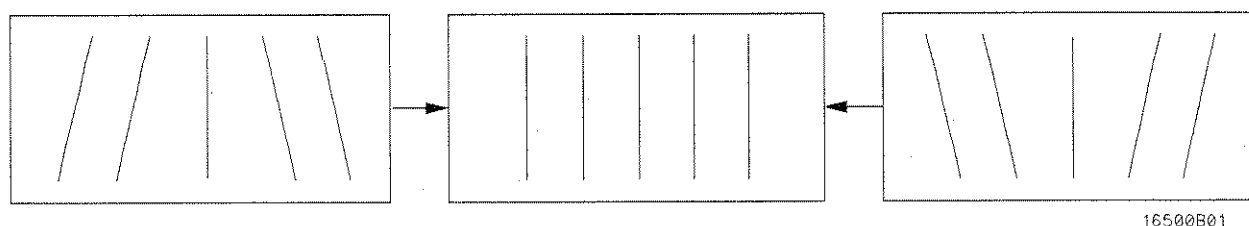

Figure 4-3. PIN PHASE Adjustment
8. Adjust **PIN PHASE** (RV505) on left side PC board to eliminate pin phase distortion in vertical lines of cross-hatch pattern. Refer to figure 4-3.